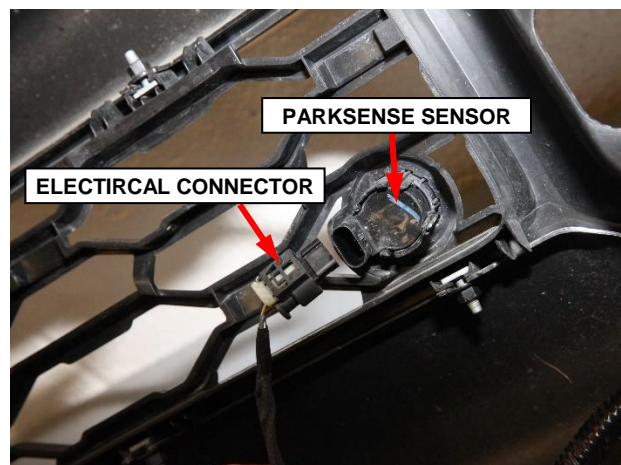

Figure 9 – Front Bumper Grille Insert
12. Disconnect the electrical connectors from the Parksense sensors (Figure 9).
20. Install the Parksense sensors into their trim rings by pressing into place, Connect the Parksense electrical connector (Figure 9).